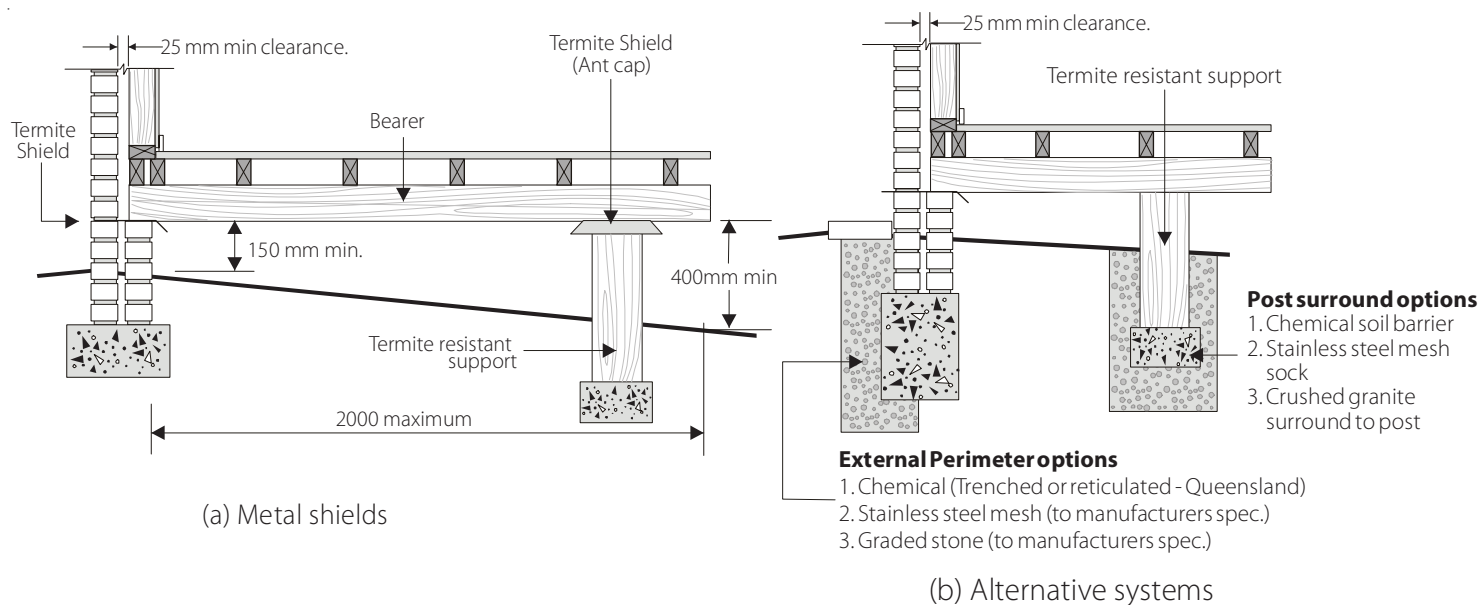

FIGURE 1 TERMITE MANAGEMENT SYSTEMS FOR SUSPENDED TIMBER FLOORS
- Timber houses with elevated timber floors should be designed to ensure a physical barrier is installed between the lowest floor timber and the ground. This also applies to stairs, pergolas and decks that attach to the building (refer Figure 1). Termite resistant or preservative treated timber stumps and posts should be used to support floors (refer Table 1 Termite Resistant Timbers). Other termite resistant materials may also be used.
- Wherever possible, buildings should be designed with physical barriers to prevent termite access to the structure. Refer to Figures 1 and 2 and AS 3660.1.
AS 3660.1 provides a range of options for the protection of new buildings from subterranean termites. Figures 1 and 2 summarise these for timber floors and monolithic slab on ground construction respectively.
- Install physical barriers or chemical soil barriers in accordance with the BCA and AS 3660.1. Refer Figures 1, 2 and 3.